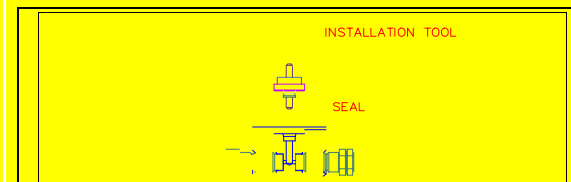

Figure 3: Piston Seal Replacement
3. Remove liquid end from pump housing, holding the liquid end against the pump housing, in line with the break the piston. See Figure 3.